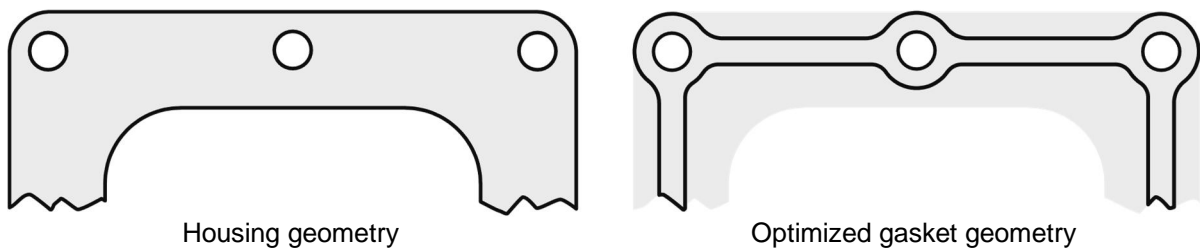

Figure 3: Comparison of housing geometry and optimized gasket geometry
3. Optimized geometry (Figure 3): Often a significant improvement of the sealing system can be achieved by optimizing the sealing geometry (see FlatSeal™ Guide 4).